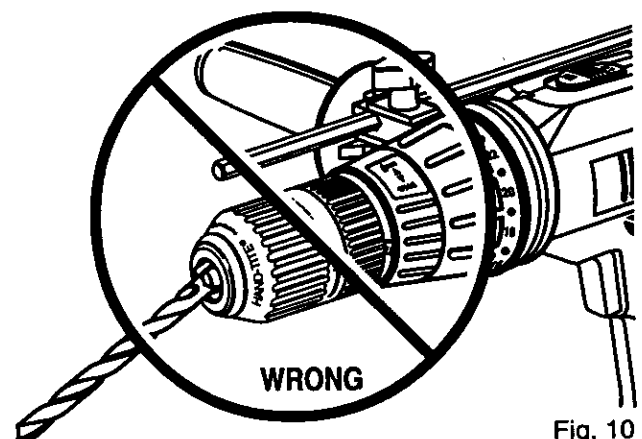

Fig. 10
**WARNING:** Do not insert drill bit into chuck jaws and tighten as shown in figure 10. This could cause drill bit to be thrown from drill resulting in possible serious personal injury or damage to the chuck.